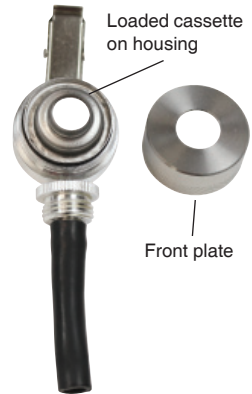

Figure 5. Installing Loaded Cassette in Sampling Head
1. Ensure that the O-ring is positioned correctly in the top of the housing (Figure 2) and place the loaded filter cassette on top of the O-ring (Figure 5).